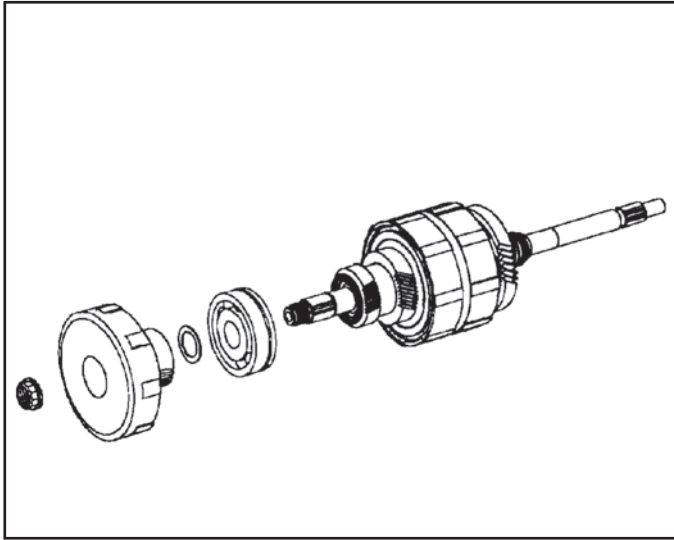

Figure 130
21. Install the input shaft bearing, 1st drive gear to case thrust washer and 1st clutch housing assembly onto the input shaft (See Figure 130).